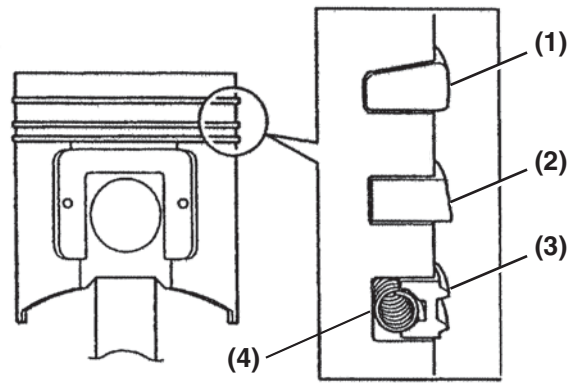

Figure 6-135
3. Reinstall the oil ring expander (Figure 6-135, (4)). Reinstall the oil ring (Figure 6-135, (3)) with the end gap at 180° from the expander end gap.
4. Reinstall the second compression ring (Figure 6-135, (2)). This ring is identified by its dark color and tapered face profile.
5. Reinstall the top compression ring (Figure 6-135, (1)). This ring is identified by its silver color and barrel-shaped face profile.
The oil ring expander (Figure 6-135, (4)) end gap must be located 180° from the oil ring (Figure 6-135, (3)) end gap.